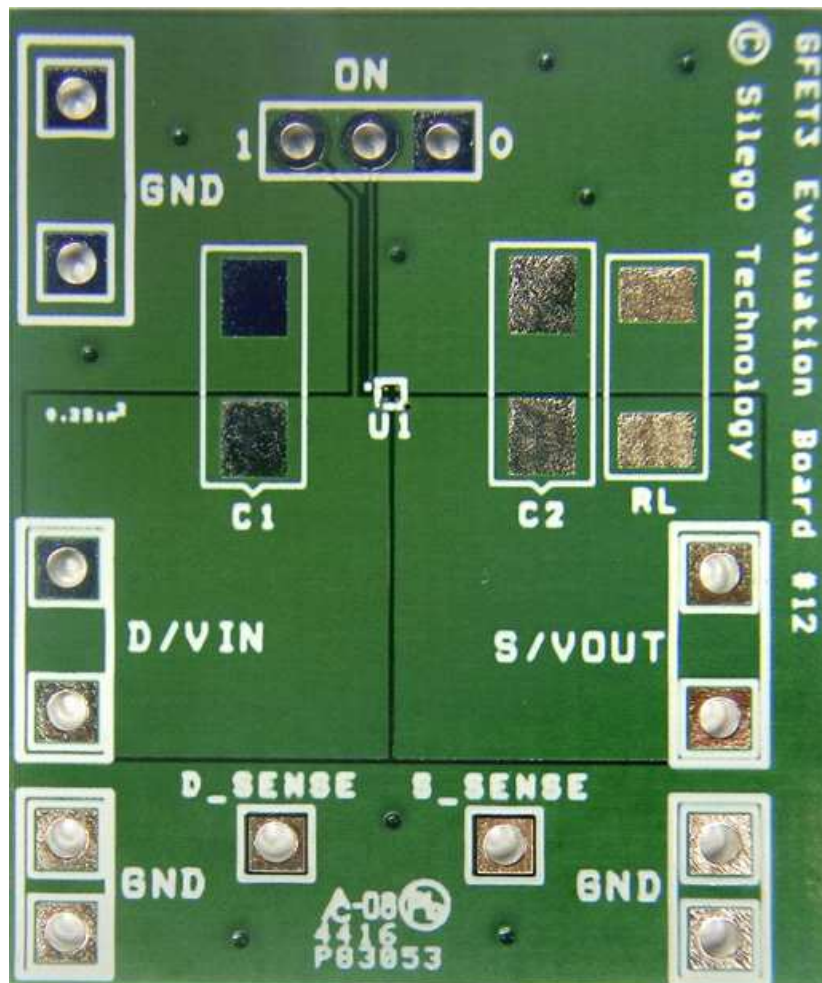

Figure 7. SLG59M1736C Evaluation Board
1. Since the VIN and VOUT pins dissipate most of the heat generated during high-load current operation, it is highly recommended to make power traces as short, direct, and wide as possible. A good practice is to make power traces with absolute minimum widths of 15 mils (0.381 mm) per Ampere. A representative layout, shown in Figure 7, illustrates proper techniques for heat to transfer as efficiently as possible out of the device;
A GreenFET Evaluation Board for SLG59M1736C is designed according to the statements above and is illustrated on Figure 7. Please note that evaluation board has D\_Sense and S\_Sense pads. They cannot carry high currents and dedicated only for  $R_{DS(ON)}$  evaluation.